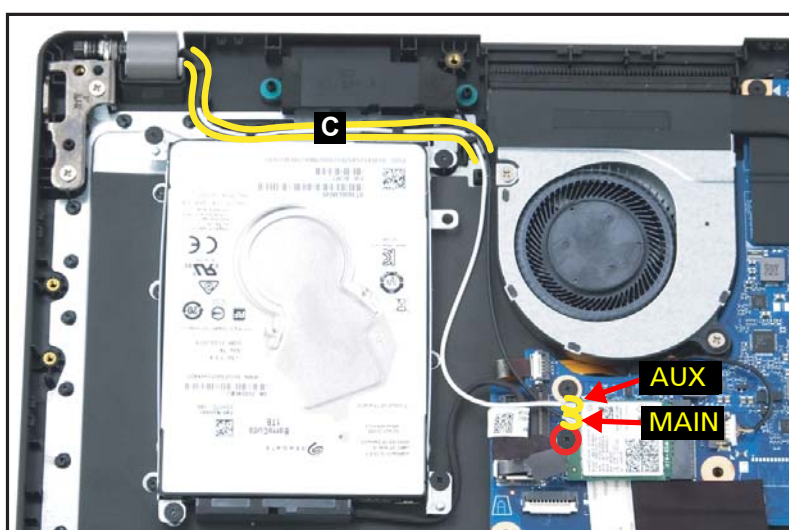

Figure 1-116. Replacing the WLAN Module
2. Route the WLAN antennas through the cable guides (C) (Figure 1-116).
3. Install and secure one (1) screw to the WLAN module (Figure 1-116).
4. Connect the AUX antenna (white-color) to the WLAN AUX pin (Figure 1-116).
5. Connect the MAIN antenna (black-color) to the WLAN MAIN pin (Figure 1-116).